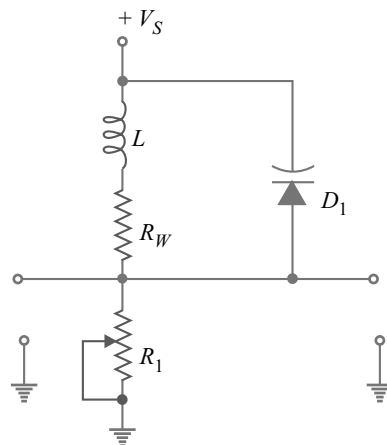

Fig. 5.26
We have discussed that we can increase or decrease the junction capacitance of varactor diode simply by changing the reverse bias on the diode. This makes a varactor diode ideal for use in circuits that require voltage-controlled tuning. Fig. 5.26 shows the use of varactor diode in a tuned circuit. Note that the capacitance of the varactor is in *parallel* with the inductor. The varactor and the inductor form a parallel LC circuit. *For normal operation, a varactor diode is always operated under reverse bias*. In fact, this condition is met in the circuit shown in Fig. 5.26. The resistance  $R_W$  in the circuit is the *winding resistance* of the inductor. This winding resistance is in series with the potentiometer  $R_1$ . Thus  $R_1$  and  $R_W$  form a voltage divider that is used to determine the amount of reverse bias across the
**Example 5.8.** The  $LC$  tank circuit shown in Fig. 5.26 has a  $1\text{mH}$  inductor. The varactor has capacitance of  $100\text{ pF}$  when reverse bias is  $5\text{ V d.c.}$  Determine the resonant frequency of the circuit for this reverse bias.